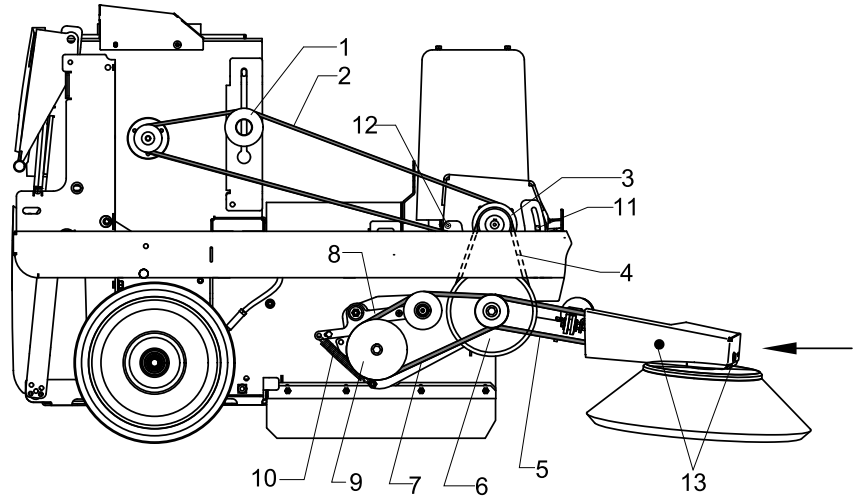

Fig.27 V-belt drive
- Detent tensioning spring (Fig. 27/10) by left hand while taking the V-belt off the tensioning roller with right hand
- Remove V-belt (Fig. 27/7)
- Loosen screws (Fig. 27/13) at the cover plate and remove
- Push side brushes from the front towards the machine to detent V-belt (Fig. 27/5)
- Remove V-belt (Fig. 27/5)
- Loosen tensioning roller (Fig. 27/1)
- Loosen hexagonal nut (Fig. 27/11) and hexagon socket screw (Fig. 27/12) and detent V-belt (Fig. 27/4)
- Remove V-belt (Fig. 27/4) from belt pulley (Fig. 27/3)
- Remove V-belt (Fig. 27/2)
At first, adjust tension of V-belt (Fig. 27/4) then tension of V-belt (Fig. 27/2).